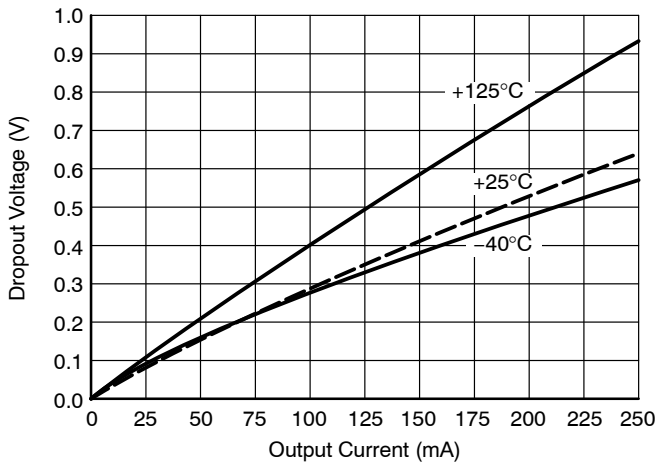

Figure 12. Dropout Voltage vs Output Current
4. Measured when the output voltage has dropped 100 mV from the nominal value. (see Figure 12)